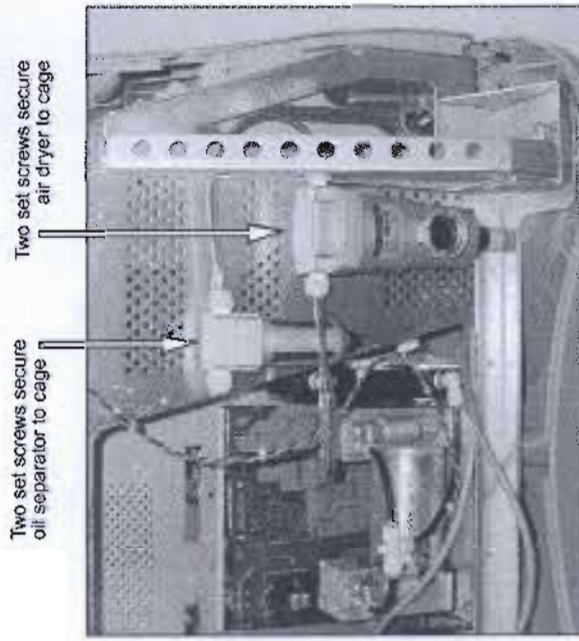

Figure 4-6 Pneumatic oil separator and air dryer
- 7.2 Disconnect two tubings from each unit (see Figure 4-6). Tubing is easily disconnected by simultaneously pressing in on plastic connector while pulling out on tubing.